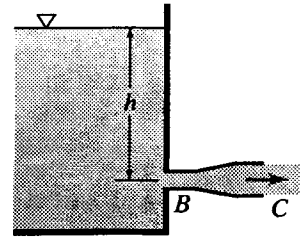

Figure P5.34
- 5.34 In Fig. P5.34 assume the tube flows full. At B, the diameter of the tube is 3 in and the diameter of the water jet discharging into the air is 4.5 in. (a) If all friction losses are negligible, what are the velocity and the pressure head at B if $h = 10$ ft. (b) What is the rate of discharge in cfs? And what would it be if the tube were cut off at B?